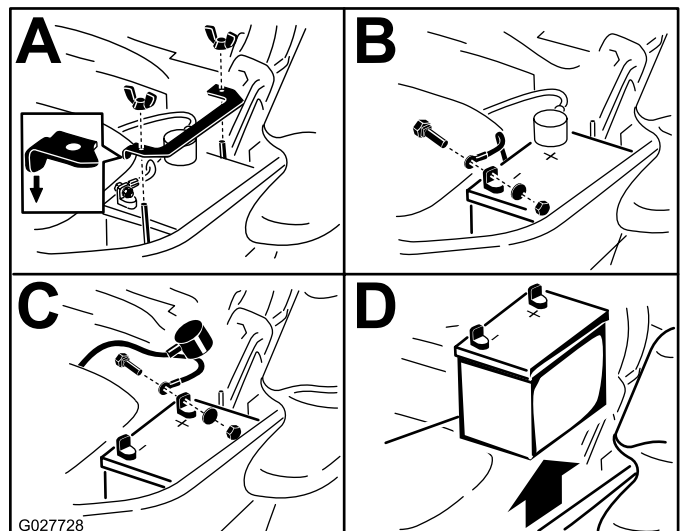

Figure 58
3. Remove the battery as shown in Figure 58.
**Note:** Position the battery in the tray with the terminal posts opposite from the hydraulic tank (Figure 58).